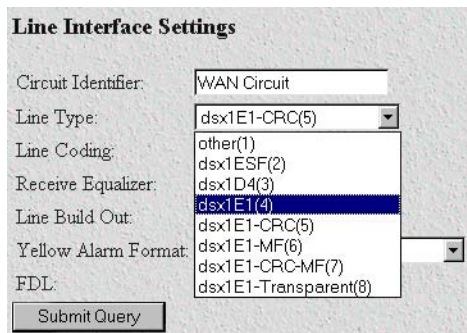

Figure 37. Line Type pull-down menu
1. From the *Line Type* pull-down menu (figure 37) select *dsx1E1(4)* or *dsx1E1-CRC(5)*.